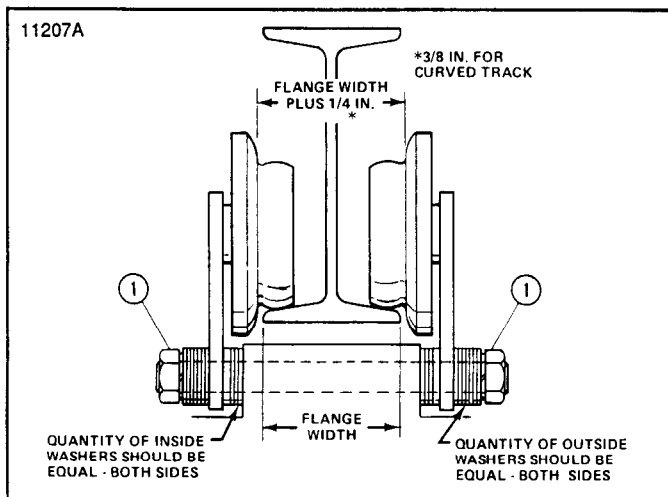

Figure 2-1. Sectional View of Trolley showing proper wheel and washer spacing.
b. Trolley Mounted hoists are attached to moveable trolleys. If hoist is mounted on an existing trolley, a qualified person shall determine that the trolley and its supporting structure are adequate to support the rated load and weight of the hoist. Hoist/trolley units may be shipped from the factory with trolley packaged separately. If the trolley can be installed directly over the end of the supporting beam, assemble trolley to hoist. Be certain that the spacing between wheel flanges, after assembly, is 1/4" greater than exact width of beam flange. (See Figure 2-1
For trolleys which are to be mounted along the span of a beam not having open ends, measure exact width of beam flange and assemble trolley to hoist so that spacing between wheel flanges is  $1/4"$  (see Figure 2-1) greater than beam width ( $3/8"$  if beam has curves). This is accomplished by rearranging the spacer washers on the bolts connecting trolley side plates to hoist mounting lug. If trolley is shipped separate from hoist, see instruction sheets furnished with trolley for orientation and installation.
When proper spacing has been determined, loosen mounting nuts (item 1, Figure 2-1) to allow trolley wheels to spread far enough to pass over edges of beam flange. (Some installations may require complete removal of one trolley side plate.) Using adequate equipment, carefully lift the hoist and trolley so the wheel treads will rest on the lower beam flange. Replace side plate and washers if removed for installation. Replace suspension stud nuts.